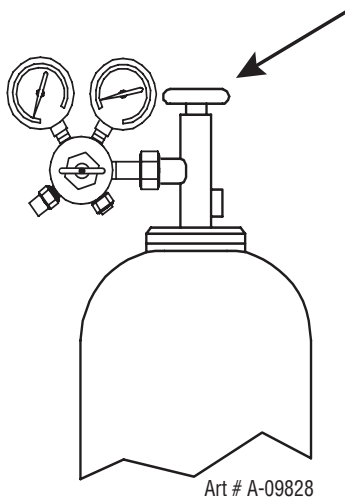

Figure 3-5: Open Cylinder Valve
- Slowly and carefully open the cylinder valve (Figure 3-5) until the maximum pressure shows on the high pressure gauge.